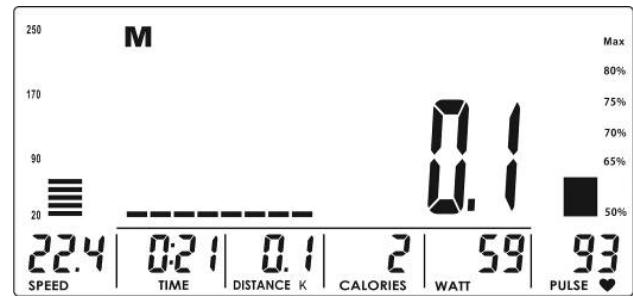

Figure 9
*The set values are counted down and the remaining values are counted up (Fig. 9).*